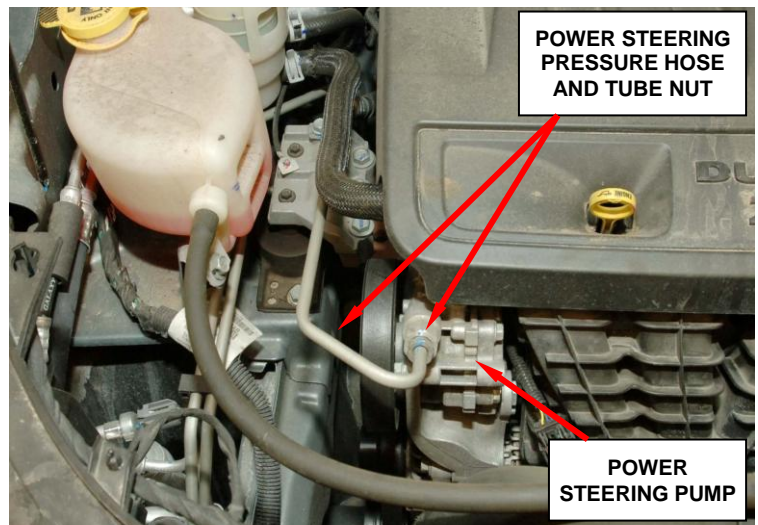

Figure 2 – Remove Power Steering Pressure Hose at Pump
4. Remove the power steering pressure hose at the pump pressure port (Figure 2).